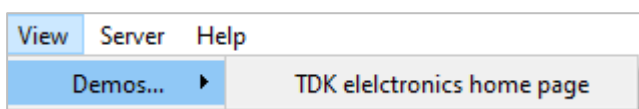

Figure 8: view button demo options
- View button- to navigate to the TDK web page for demos (Figure 8).